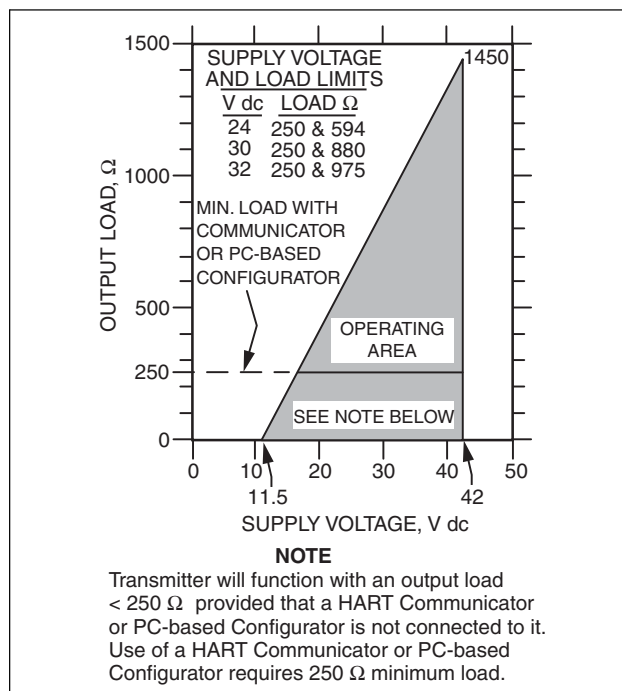

Figure 19. 4 to 20 mA Output, Supply Voltage vs. Output Load
**Supply Voltage Requirements and External Loop Load Limitations (Figure 19)**
Minimum voltage shown in Figure 19 is 11.5 V dc. This value can be reduced to 11 V dc by using a plug-in jumper across the test receptacles in the field wiring compartment terminal block. See Figure 23.